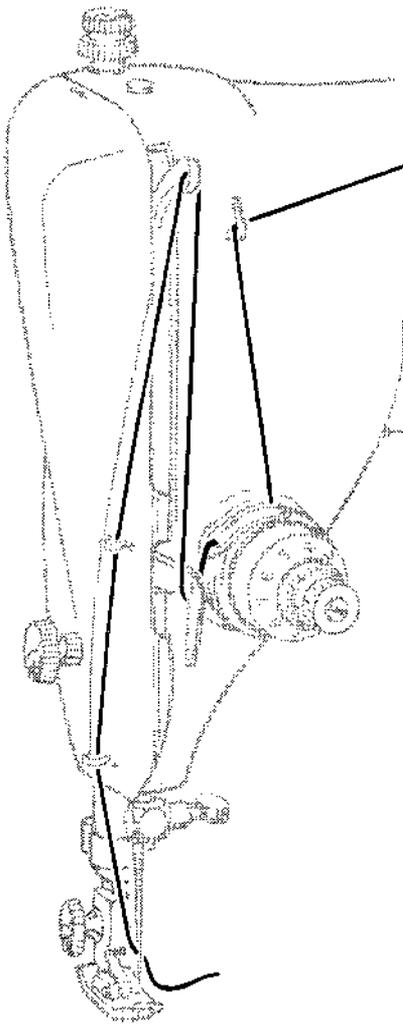

FIG. 22.
- Thread machine as shown in Fig. 22.